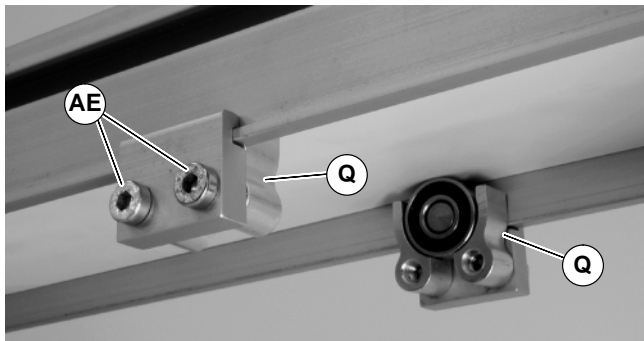

Figure 12
3. Install roller assemblies (Q of Figure 12) as shown. Tighten screws (AE) to 60 in-lb (7 Nm).